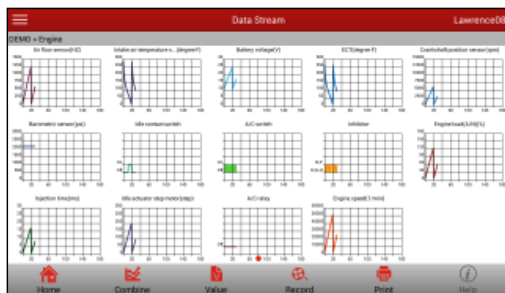

Fig. 5-19
**Graphic:** After selecting, tap it to view the waveform. Refer to Fig. 5-19.